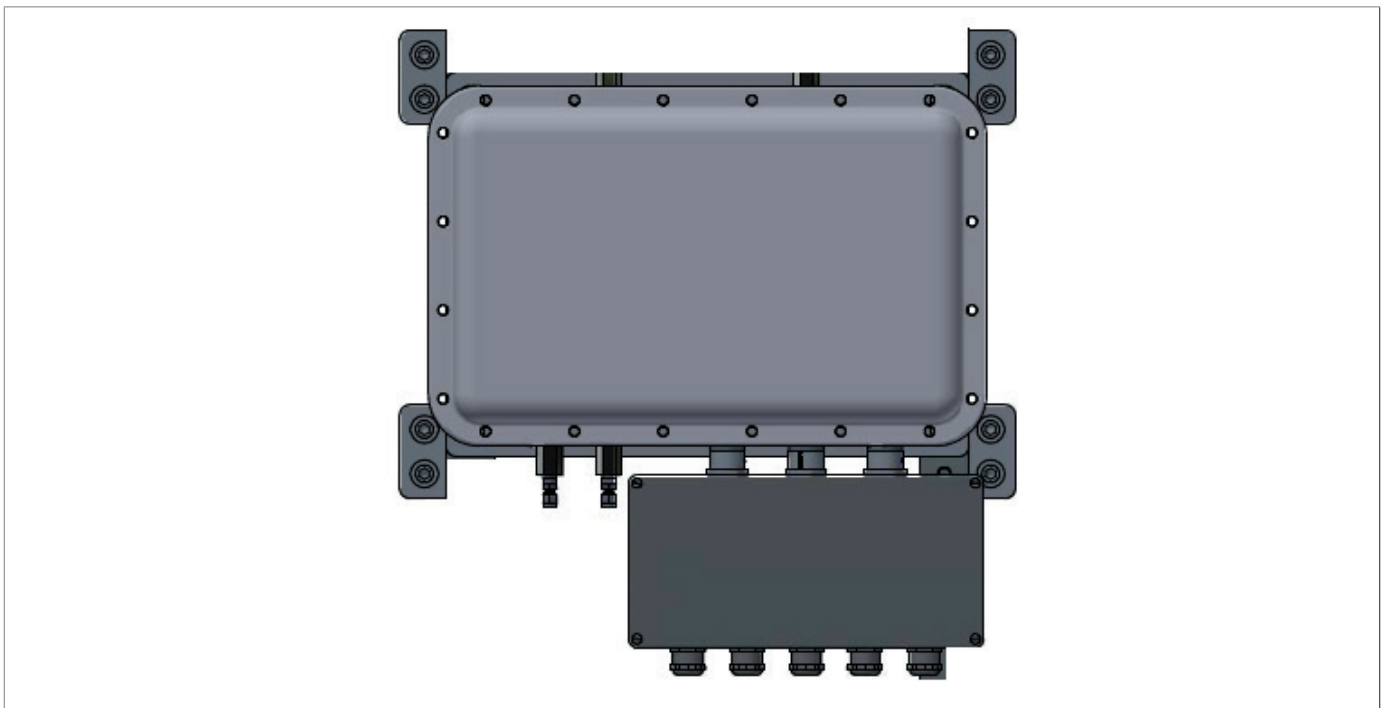
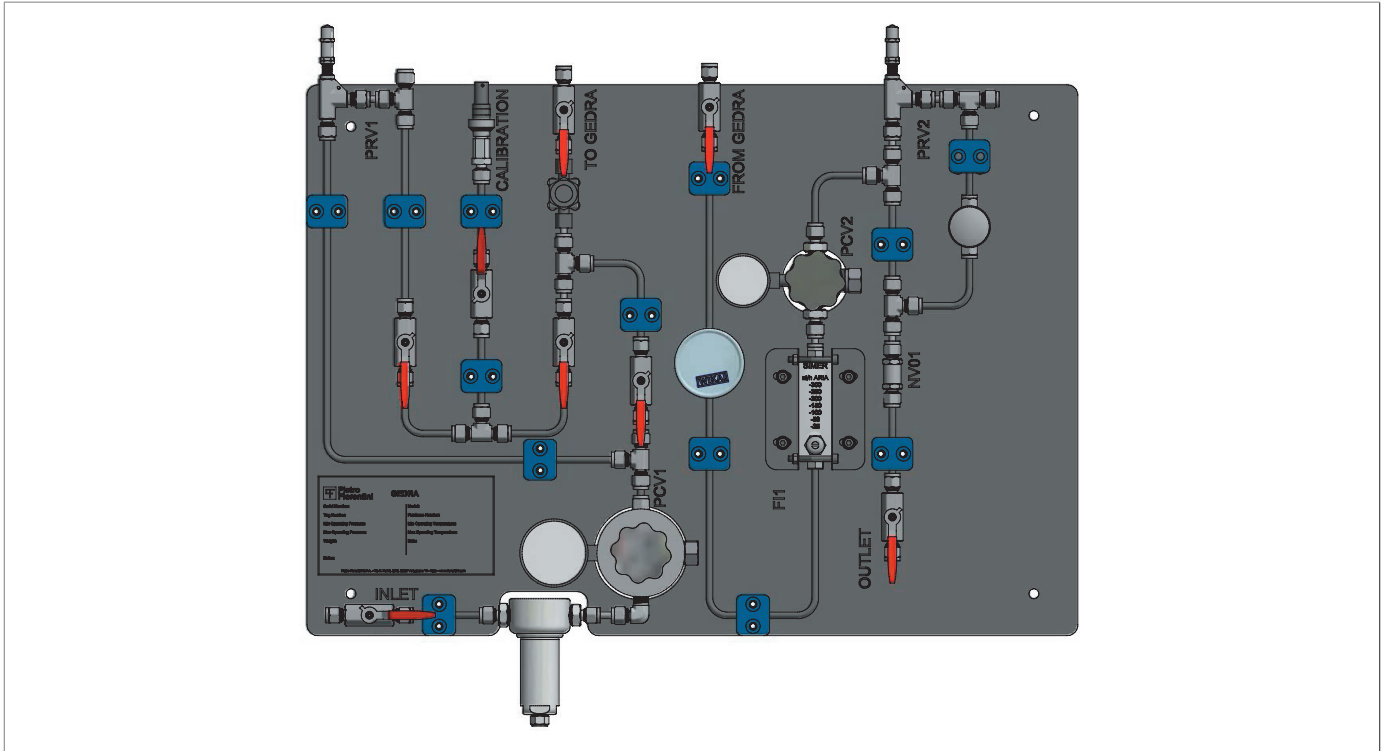

Fig. 4.19. *Wall-mounted (analysis module)*
Fig. 4.20. Wall-mounted (pneumatic panel)
- on the wall (Fig. 4.19, Fig. 4.20), this mode involves wall fixing in the upper part of the Ex-d enclosure and in the lower part of the pneumatic panel;